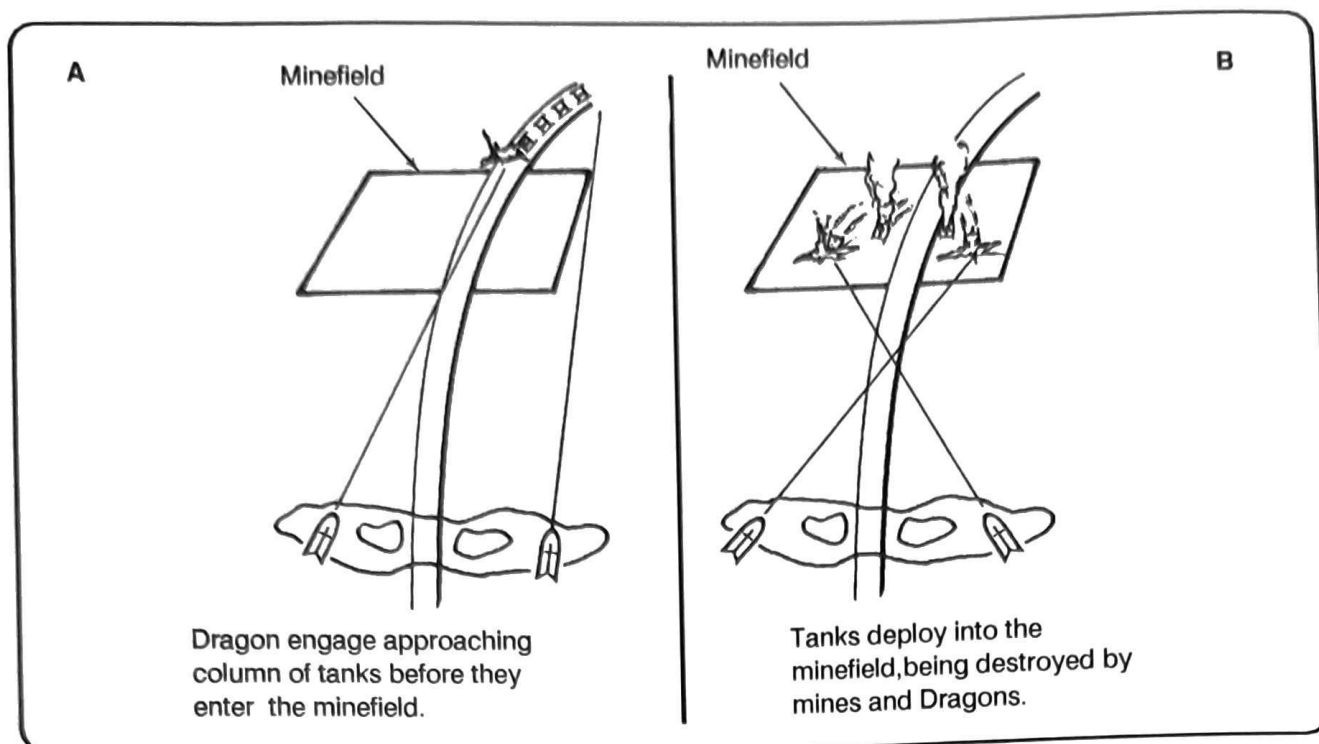

Figure 3-7. Covering minefields.
(1) Dragons engage an approaching column of tanks before they enter the minefield. (See A, Figure 3-7.)
(2) Tanks continue to deploy into the minefield and are destroyed by mines and Dragons. (See B, Figure 3-7.)